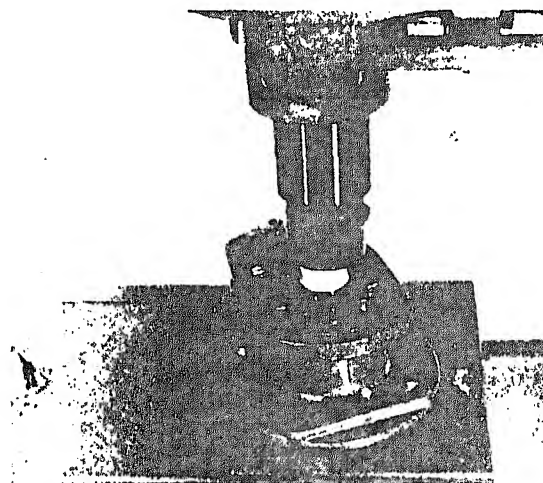

Fig. 506-10 Installing drive cover oil seal
2. Press first oil seal into drive cover with lip toward outside of pump, and press second oil seal into drive cover with sealing lip toward inside of fuel pump. Seals must be spaced so the "telltale" hole is not covered. Fig. 506-10.